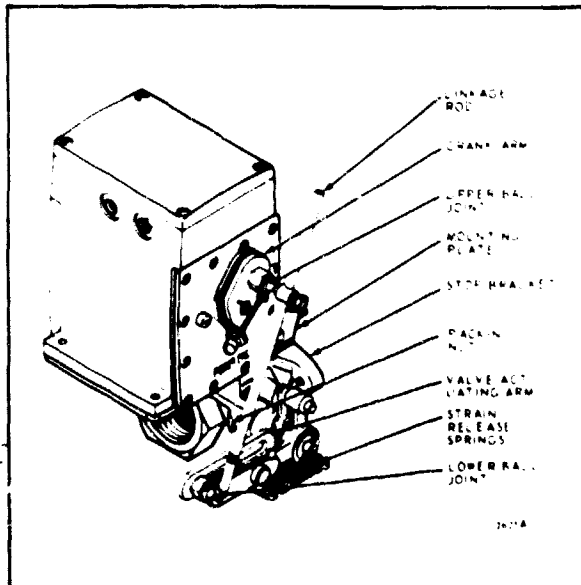

FIG. 2-Q100B LINKAGE ASSEMBLY.
CONNECTING MODUTROL MOTOR AND V51E VALVE USING Q100B LINKAGE (SEE FIG. 2)
Special parts needed for the basic assembly are furnished in bag assemblies. For adapting Q100B linkage to operate dampers, auxiliary valves, or other equipment, see burner manufacturer's instructions. Install the motor and linkage on the valve as follows (refer to Fig. 2):
4. Install valve actuating arm as shown in Fig. 2 and adjust as desired.